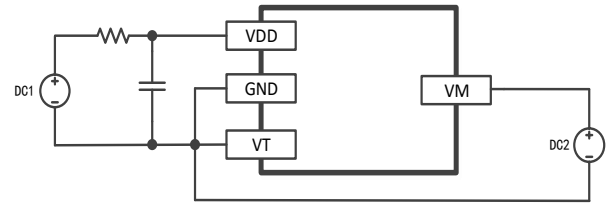

Figure7-2
a. According to the figure7-2, connect the power supply DC1 to the B + and GND pins of the system board and set the voltage to about 3.6V. Connect the DC2 power supply from VM to GND, set the 100mV current limiting 10mA, and observe the waveform.